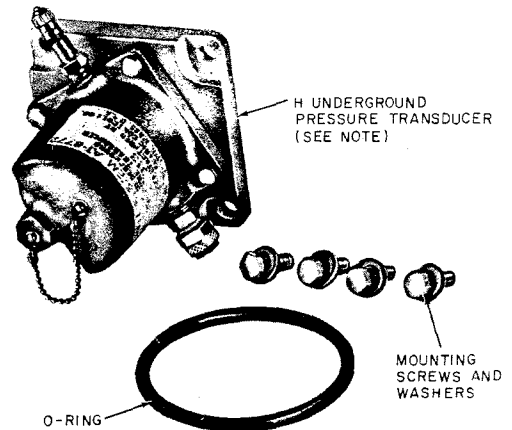

Fig. 17—H Underground Pressure Transducer
9.01 When additional transducers are required for an existing E Pressure Transducer System installation and there are blank cavities available in the B transducer housing, H transducers may be installed in the vacant cavities. **The H transducer consists of an F transducer equipped with an adaptor plate and O ring (Fig. 17).**